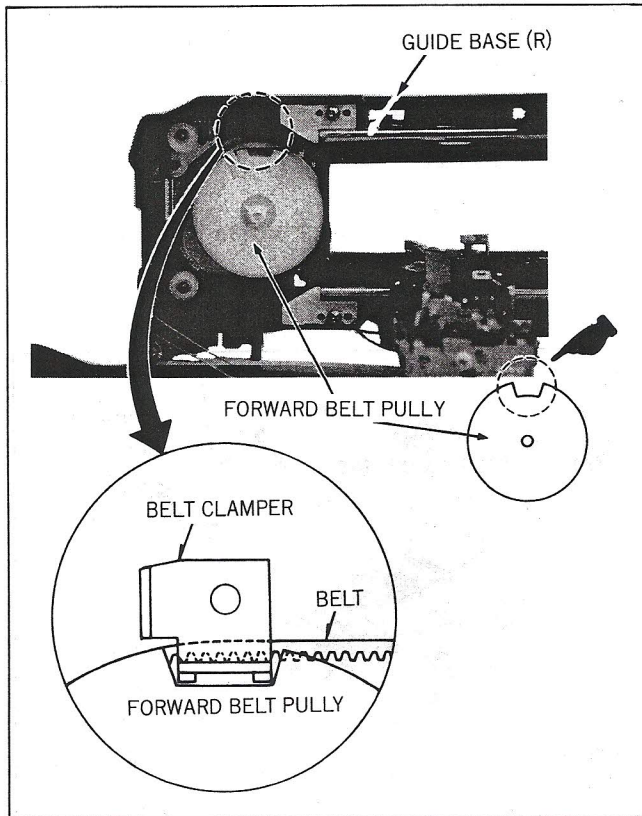

Fig. 8-4 Optical Pick-up
1. Move the Forward Belt Pulley as shown in Fig. 8-4. Reinstall the Belt Clamper.